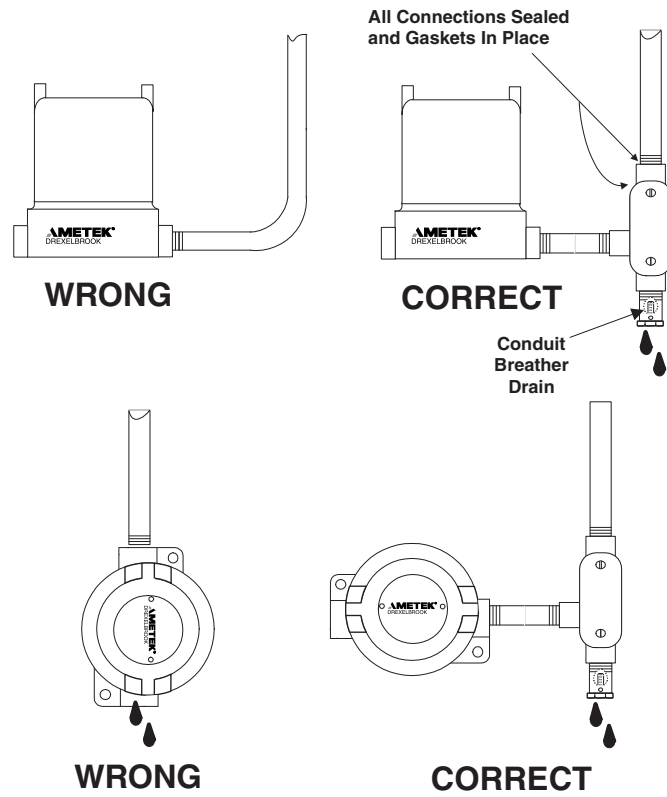

Figure 2-1
- It may be mounted either vertically or horizontally. Conduit runs must avoid moisture infiltration into the housing and conduit. See Figures 2-1.